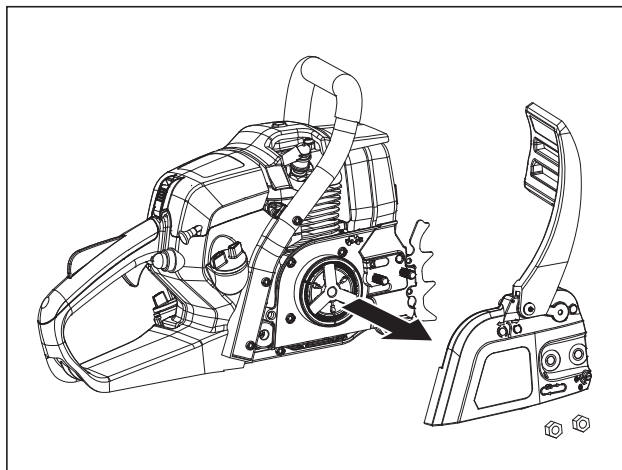

Fig. 33
3. Remove the clutch cover (Fig. 33).